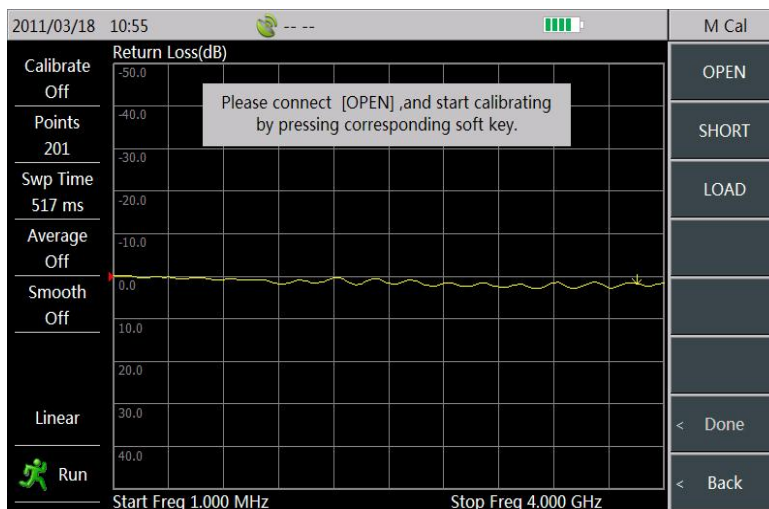

Figure 3.2 Mechanical Calibration Prompt
3. Select [M Cal] menu to calibrate the Analyzer following by screen tips. After that, Analyzer’s software will give calibration prompt instructions, as shown in Figure 3.2.